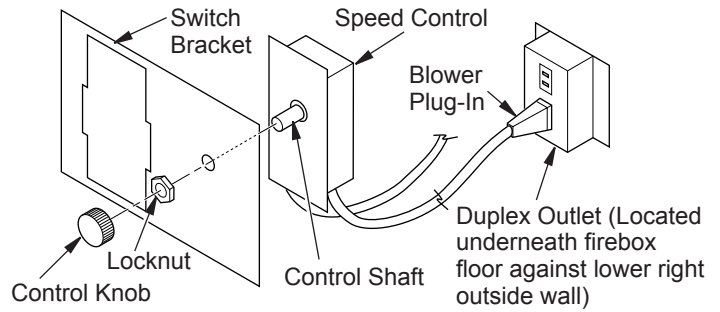

Figure 26 - Attaching Speed Control to Firebox
5. Mount speed control box to switch bracket by placing the plastic control shaft forward through the opening in the switch bracket (see Figure 26).
- Mount the speed control box against the mounting plate provided in the lower fireplace cavity by placing the plastic control shaft forward through the round hole (see Figure 26, page 15).
- While supporting speed control, secure control shaft with lock nut by pushing and turning lock nut with pliers clockwise until it is tight against mounting plate. Place control knob provided on shaft (see Figure 26, page 15).